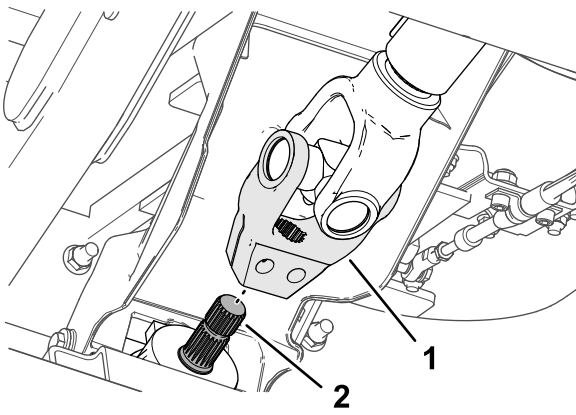

Figure 17
5. Align the splines in the driveshaft yoke onto the splines of the attachment input shaft (Figure 17), and slide the yoke over the shaft.